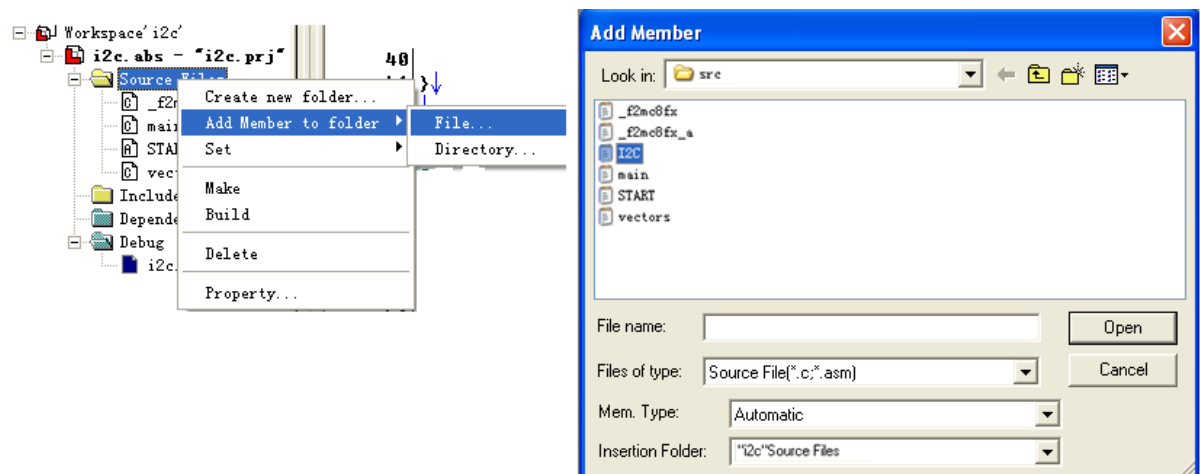

Figure 4-2: Second Step of Use I2C Library
- ✧ Second step is adding I2C library to project, Figure 4-2 is a sample for this work